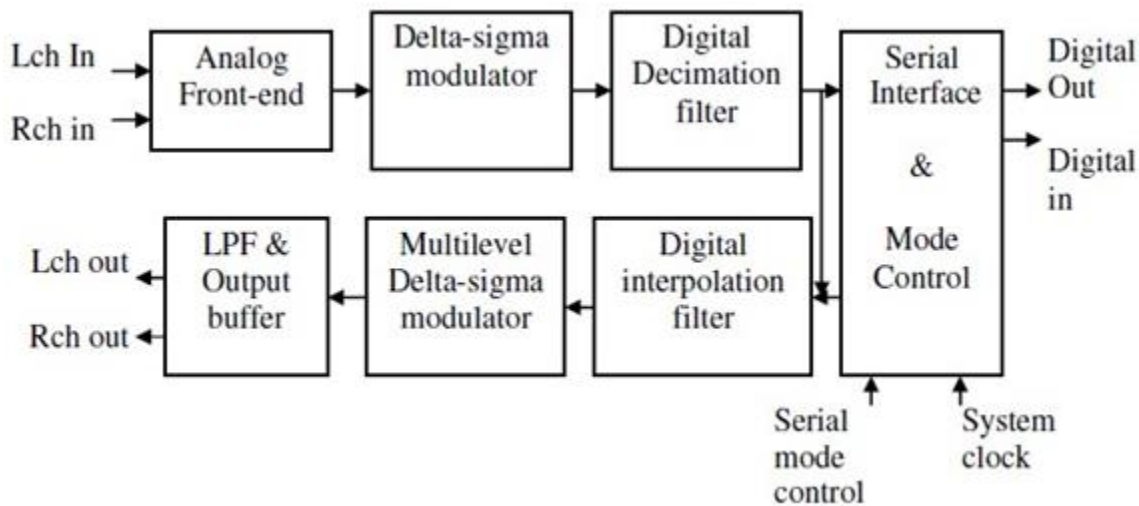

FIG: 8.4 Block diagram of PCM3002 CODEC
- Fig. 8.4 shows the block diagram of PCM3002 CODEC.